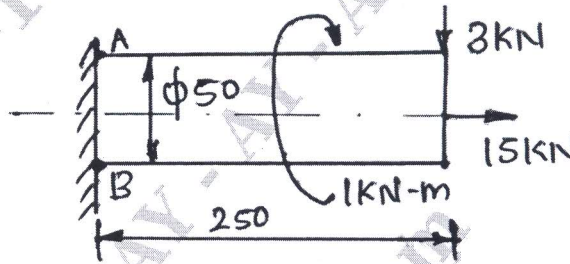

Fig.Q1(b)
b. A circular rod of diameter 50mm is subjected to loading conditions as shown in the Fig.Q1(b). Determine the nature and magnitude of stresses at the critical points. (12 Marks)